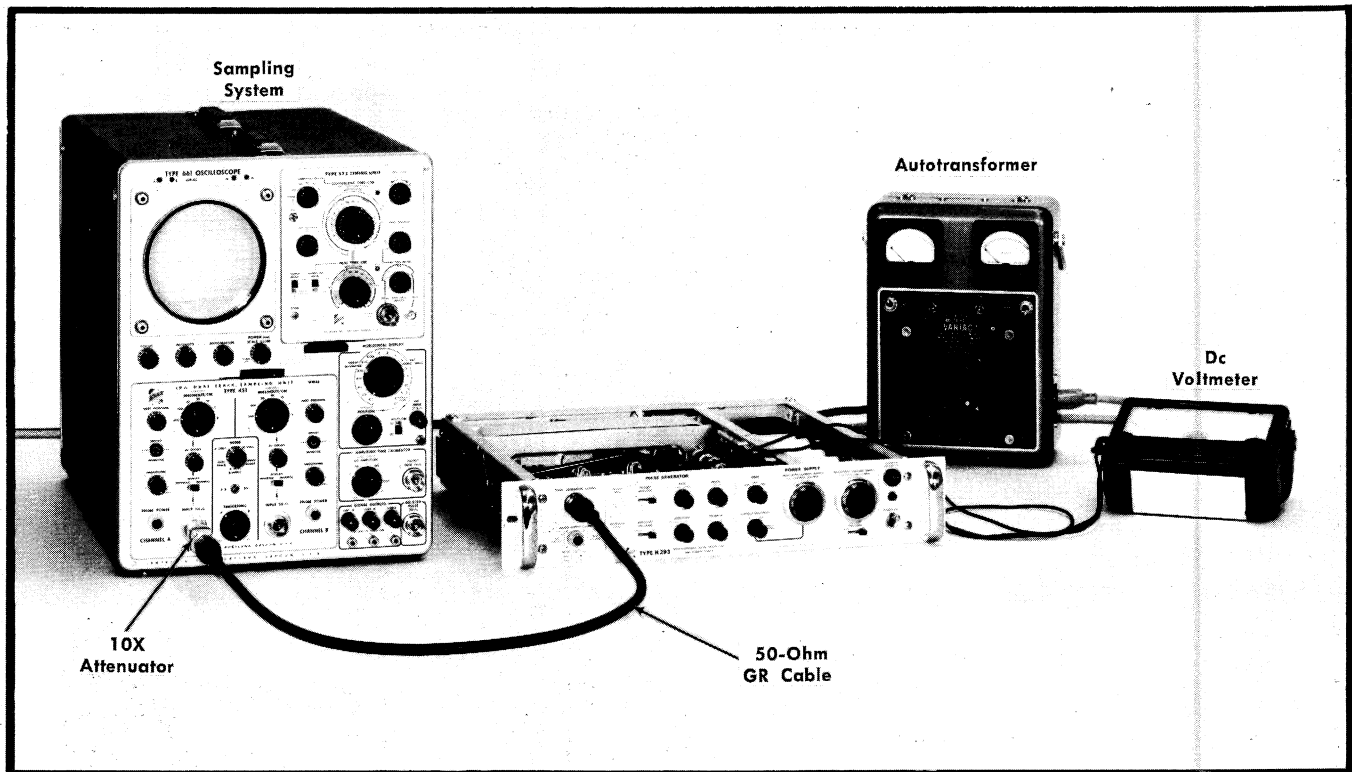

Fig. 6-9. Initial test equipment setup for steps 8 through 13.
①
- Test equipment setup is shown in Fig. 6-9.